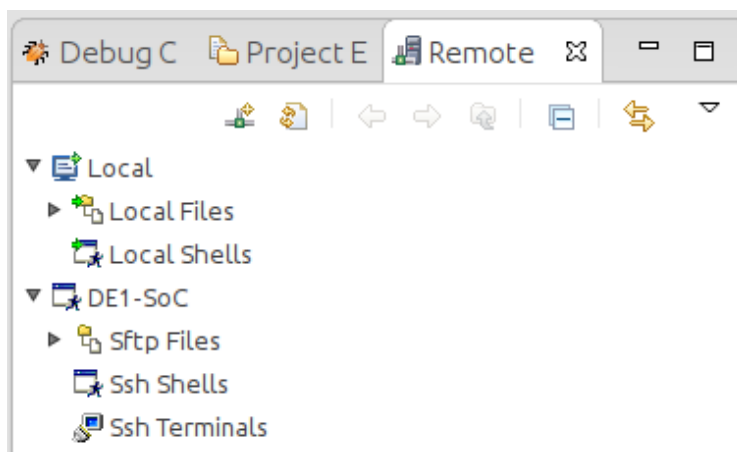

Figure 13-18. New SSH Connection In "Remote Systems" View
73. You should be able to see the remote system in ARM DS-5's “Remote Systems” view, as shown in Figure 13-18.